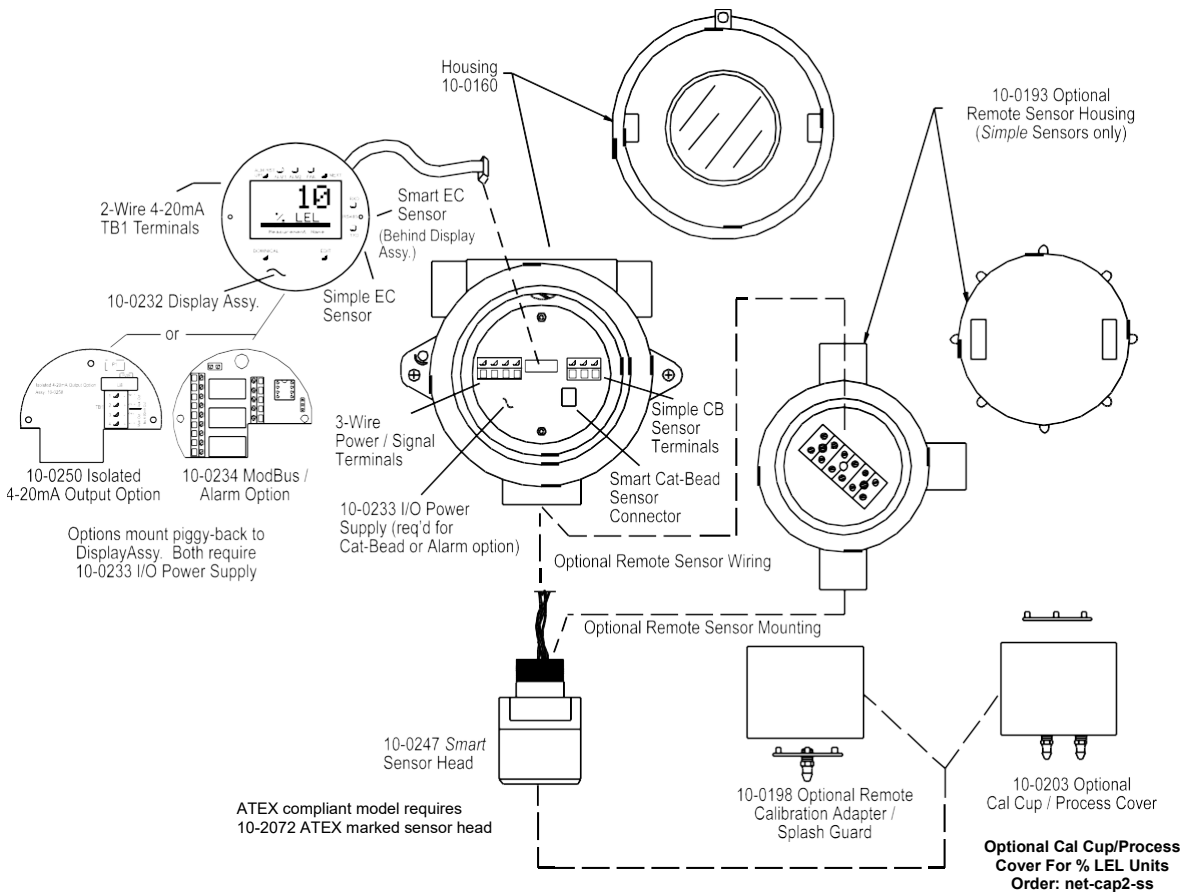
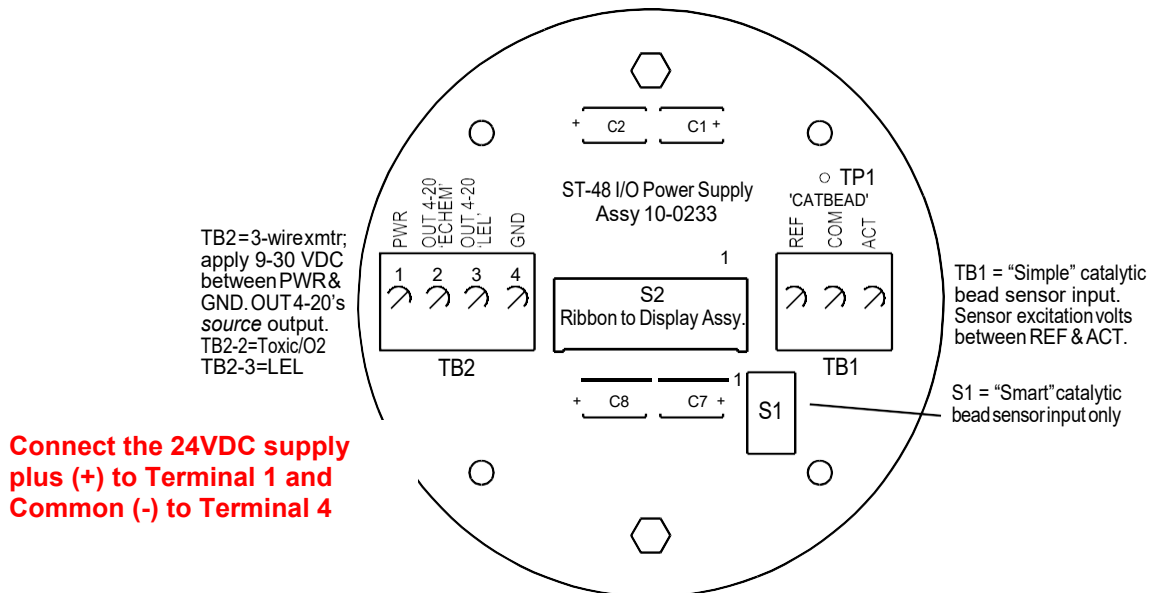
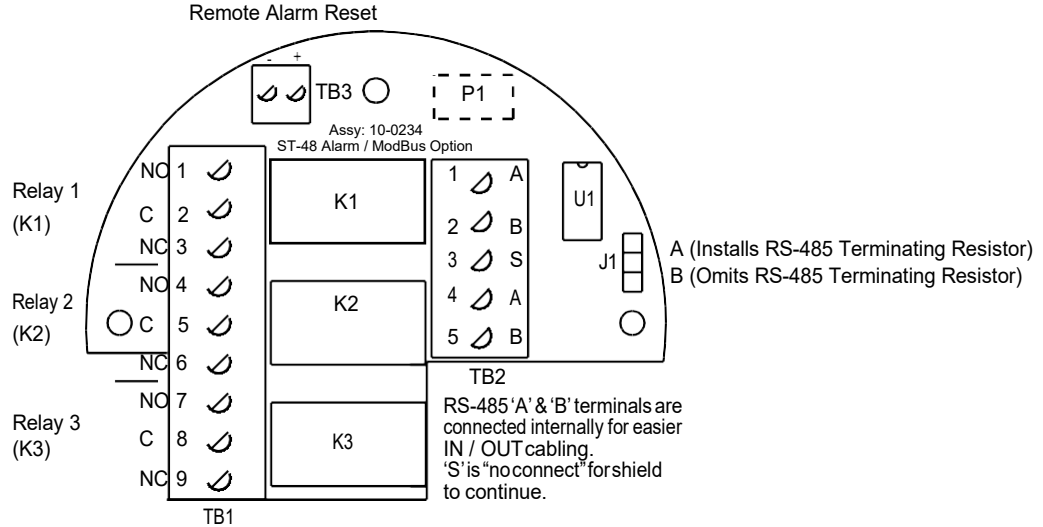
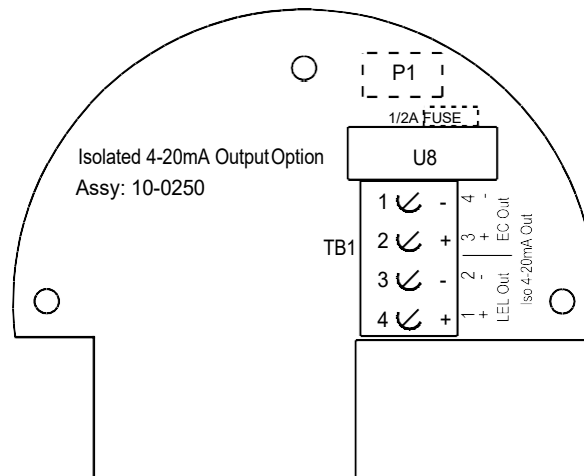

Figure 2-3: Outline Drawing
Figure 2-5: 10-0233 I/O Power Supply / 3-Wire 4-20mA Assembly
Figure 2-6: 10-0234 Alarm Relays / Modbus Option
Figure 2-8: 10-0250 Isolated 4-20mA Output Option
Modular design simplifies the installation of the ST-48 (Figure 2-3). A top Display Assembly is mounted with captive thumbscrews and is easily removed to access field-wiring terminals. An optional 10-0234 Alarms/Modbus board mounts *piggyback* to the back of the Display Assembly. Wiring from toxic or oxygen sensors terminates at the 10-0232 Display Assembly along with 2-wire 4-20mA signal wires. This Display Assembly is the only PC board supplied with toxic / oxygen ST-48s not requiring relays, RS-485 Modbus or LCD backlight. The optional bottom 10-0233 I/O Power Supply board generates voltages needed for LCD backlight, relays, RS-485 Modbus and catalytic bead LEL sensor and is required with any of these I/O functions. The enclosure is equipped with two threaded 3/4 inch NPT conduit fitting outlet and pre-drilled mounting flanges.
3-wire sourcing transmitters require an additional dedicated 24 VDC wire. The 4-20mA loop current is then delivered, or sourced, from the transmitter output and the receiver device must not provide 24 VDC from its input terminal. When the ST-48 is equipped with the bottom 10-0233 I/O Power Supply board shown in Figure 2-5, the 2-wire 4-20mA output is disabled and one of the 10-0233's 3-wire outputs must be used. TB2 terminal 2 is for ECHEM toxic / oxygen 3-wire 4-20mA output signals and TB2 terminal 3 is for LEL 3-wire 4-20mA output signals.
Unscrew the cover on the ST-48 explosion-proof enclosure. Loosen the 2 thumbscrews holding the display assembly in place and remove it. A small ribbon cable is attached with sufficient length to allow access to the I/O PCB mounted in the bottom of the enclosure (Figure 2-5). Power and signal connections are to TB2 where 24 VDC, Signal and Common wires must be connected. A blocking diode protects the ST-48 if polarity of the power supply is reversed but it will not operate. Reassemble the ST-48. Follow the procedures and recommendations in the receiver and power supply manuals to complete the installation. Be sure the ST-48 enclosure and conduit are properly grounded. Apply power and the ST-48 should function. Proceed to section-3.
The optional 10-0234 Alarms/RS-485 Modbus board supplies two level alarm relays, a FAULT relay and an RS-485 Modbus RTU slave port (Figure 2-6). This board is "piggybacked" behind the 10-0232 Display Assembly (Figure 2-3). Addition of this option requires 3-wire mode 4-20mA
operation and thereby requires the 10-0233 I/O Power Supply board (Figure 2-5). This is since relays and RS-485 circuits require much more power than 2-wire 4-20mA loops can deliver.
The optional 10-0250 Isolated 4-20mA option (Figure 2-8) provides dual 4-20mA outputs that are electrically isolated from sensor inputs and the 24 VDC power source. Each 4-20mA output share the same common terminal and are not isolated from each other. This board is "piggybacked" behind the 10-0232 Display Assembly (Figure 2-3). Addition of this option requires 4-wire mode 4-20mA operation and thereby requires the I/O Power Supply board (Figure 2-5).
**CAUTION:** 10-0247 Smart sensor heads with electrochemical toxic sensors must connect to S1 located on the back of the 10-0232 Display Assembly (Figure 2-4). 10-0247 Smart sensor heads with catalytic bead combustible sensors must connect to S1 located on the optional I/O PCB assembly (Figure 2-5).